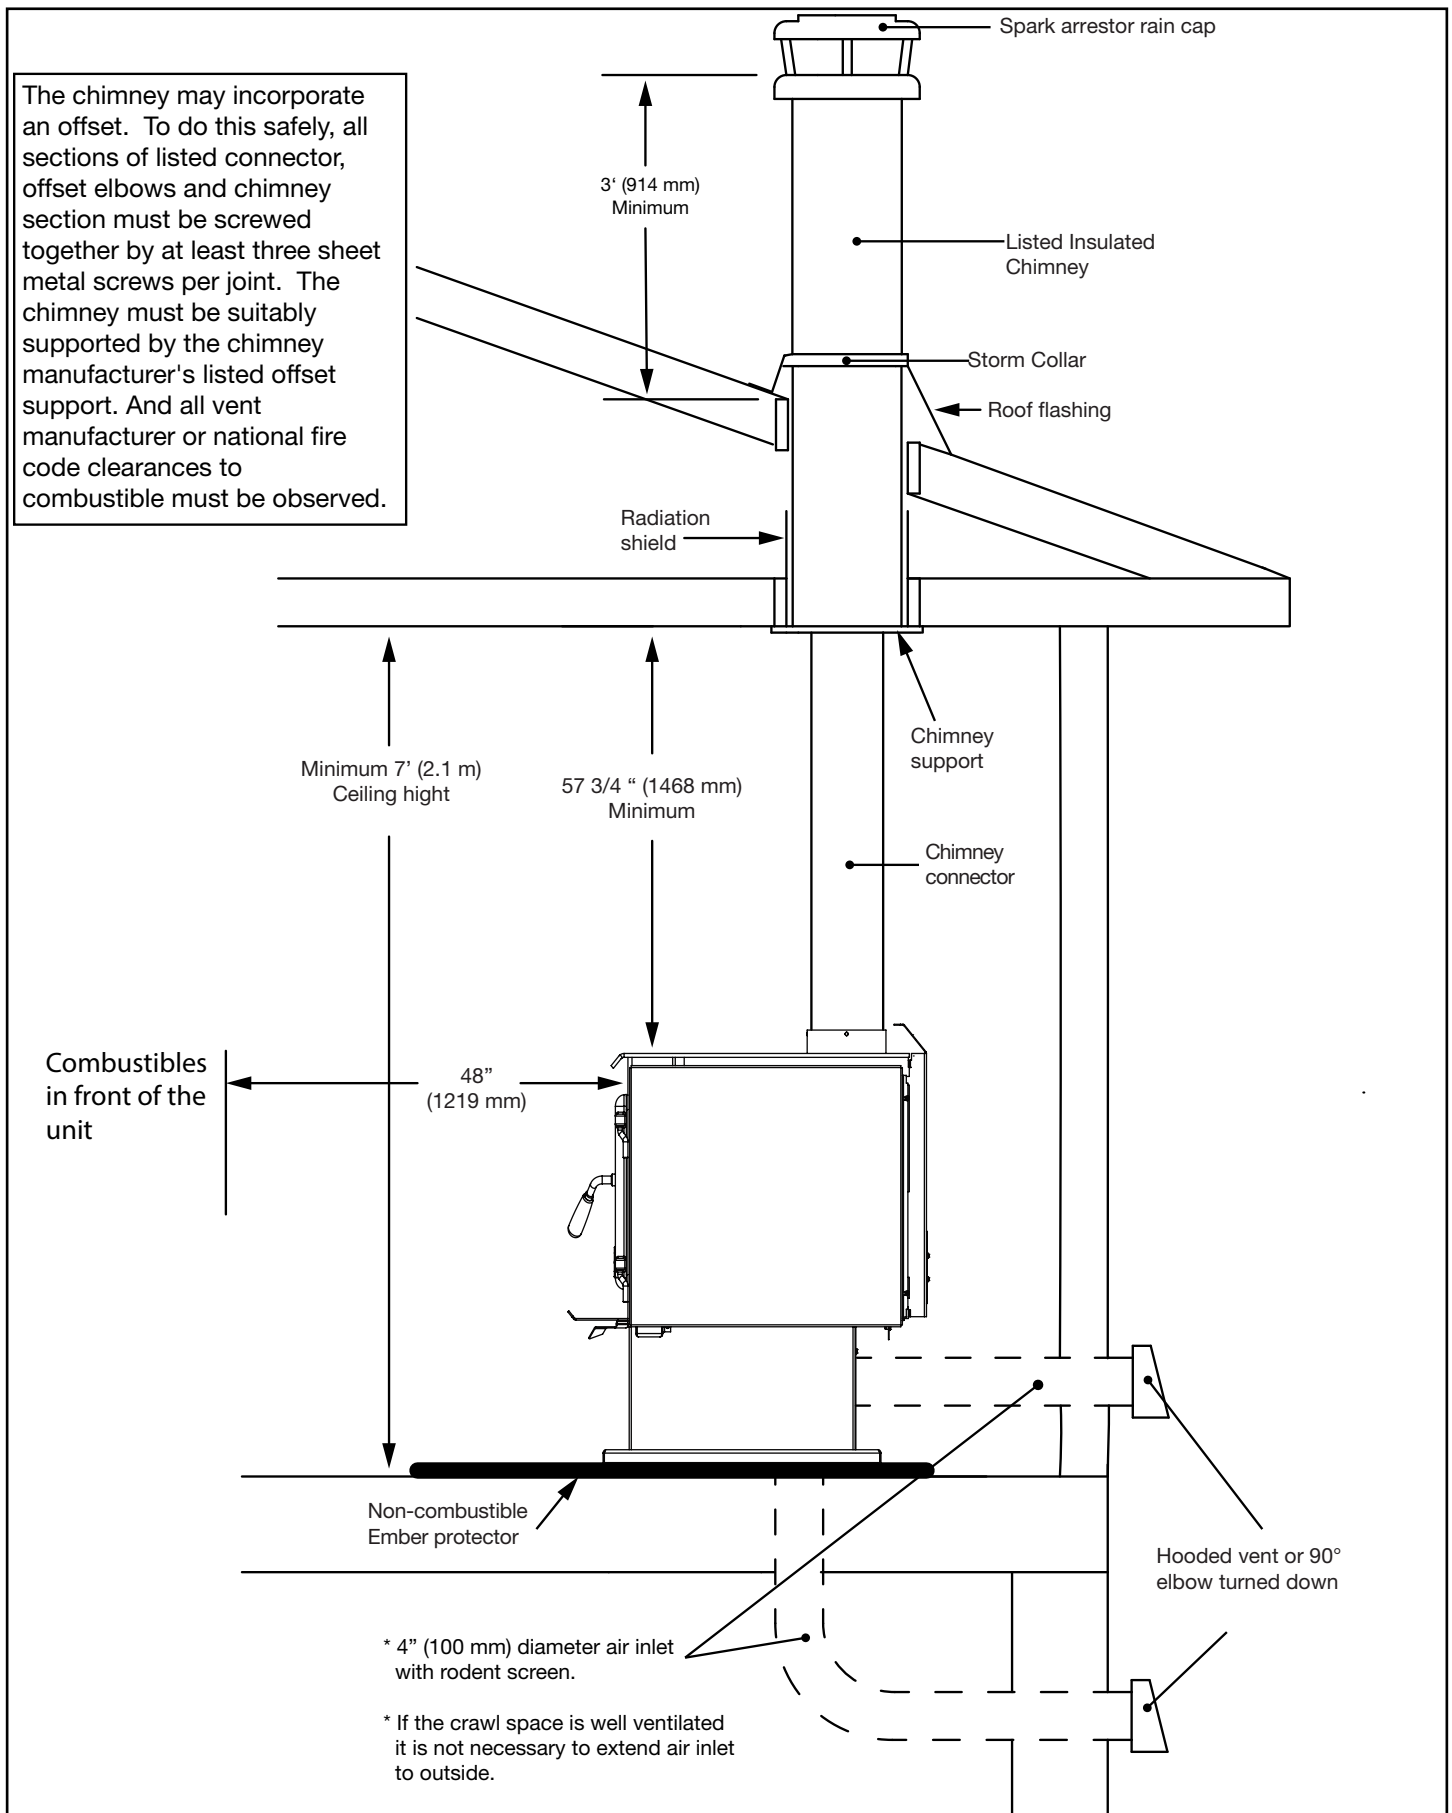

Figure 13: Mobile home or typical home installation.
- To draw outside air through the floor; leave the knockout or square cover plate in the rear of the pedestal in place. Use an approved 4"(102mm) inlet vent cap. Cut or drill a 4"(102mm) diameter or larger hole in the floor anywhere inside the perimeter of the pedestal base. Cover the hole with a 20GA wire mesh minimum, rodent screen and staple/nail in place. This hole must get its air from a ventilated crawl space or be extended with duct to the outdoors (see Figure 13 on page 17 or Figure 14 on page 18)
- To draw outside air through the floor; Cut or drill a 4"(102mm) diameter or larger hole in the floor under the stove. Attach the outside air adapter (11100005) to the underside of the stove. Connect the adapter to the hole using 4"(102mm) flexible or rigid metal venting. Cover the hole with a 20GA wire mesh minimum, rodent screen and staple/nail in place. This hole must get its air from a ventilated crawl space or be extended with duct to the outdoors (see Figure 13 on page 17 or Figure 14 on page 18. if extended use an approved 4"(102mm) inlet vent cap